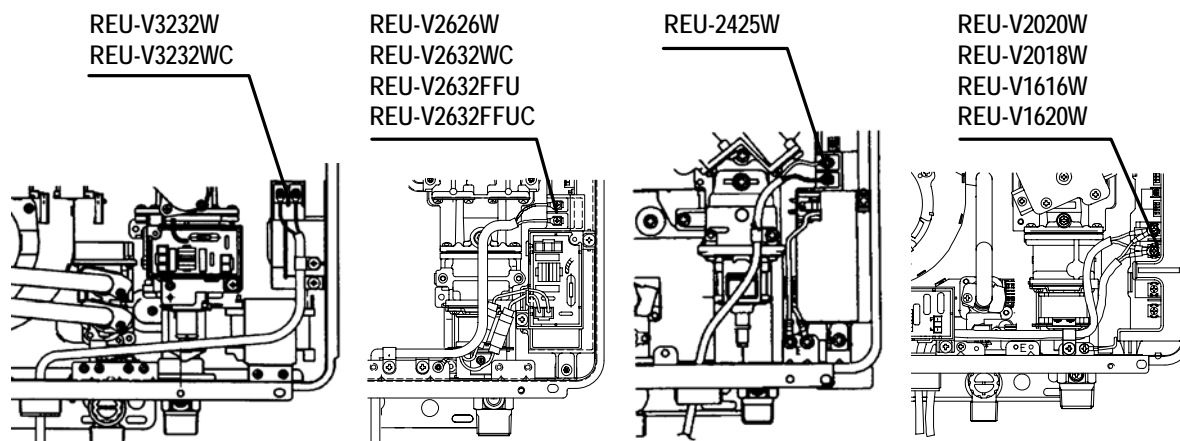

Fig. 2
5. Locate the position of the terminals (Fig. 2), Connect the spade connectors to the terminals on the P.C.B. (Fig. 2). Polarity is not important. Either wire colour can be connected to either terminal.